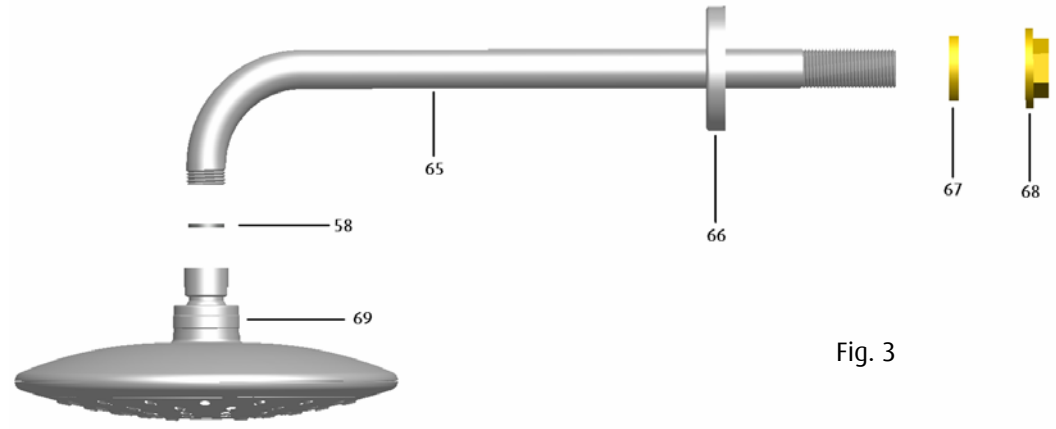

Fig. 3
4.5 Shower Arm Installation (See Fig. 3)